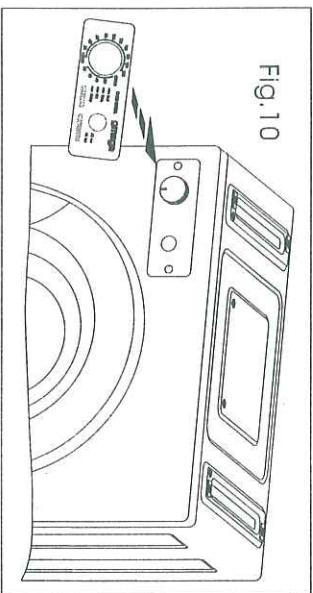

Fig. 10
3) There is an printing control panel in the accessories bag. Rip the protected paper and stick it over the existing panel, as per Fig. 10.